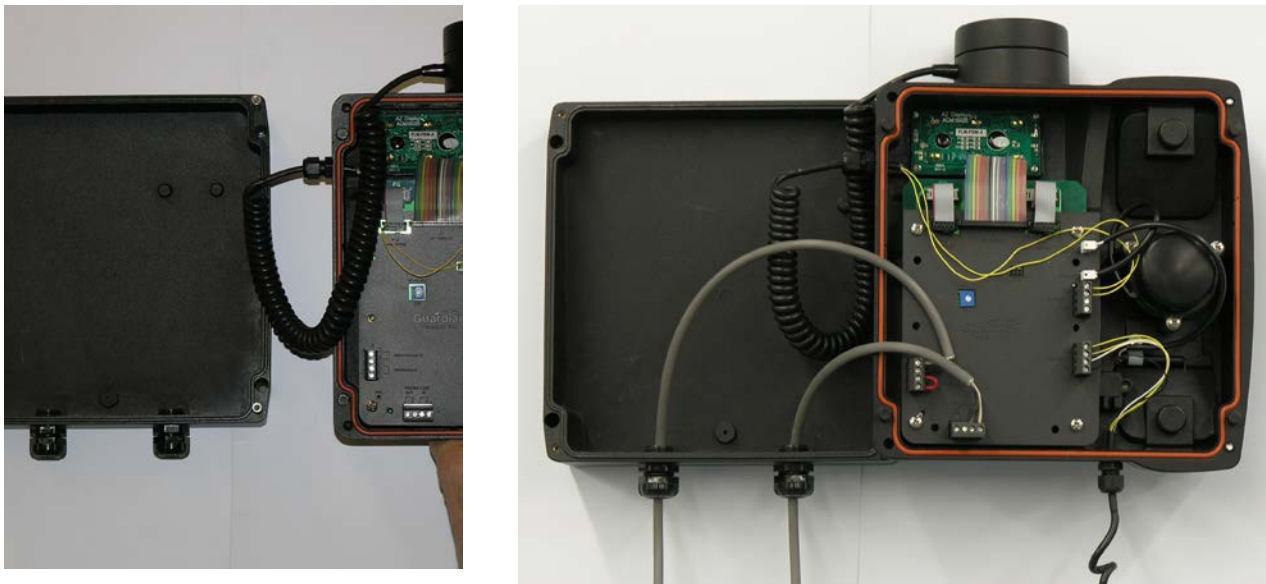

Figure 6 - Temporary Mounting for Wiring
See: Figure 6 - Temporary Mounting for Wiring
*See: Figure 6 -